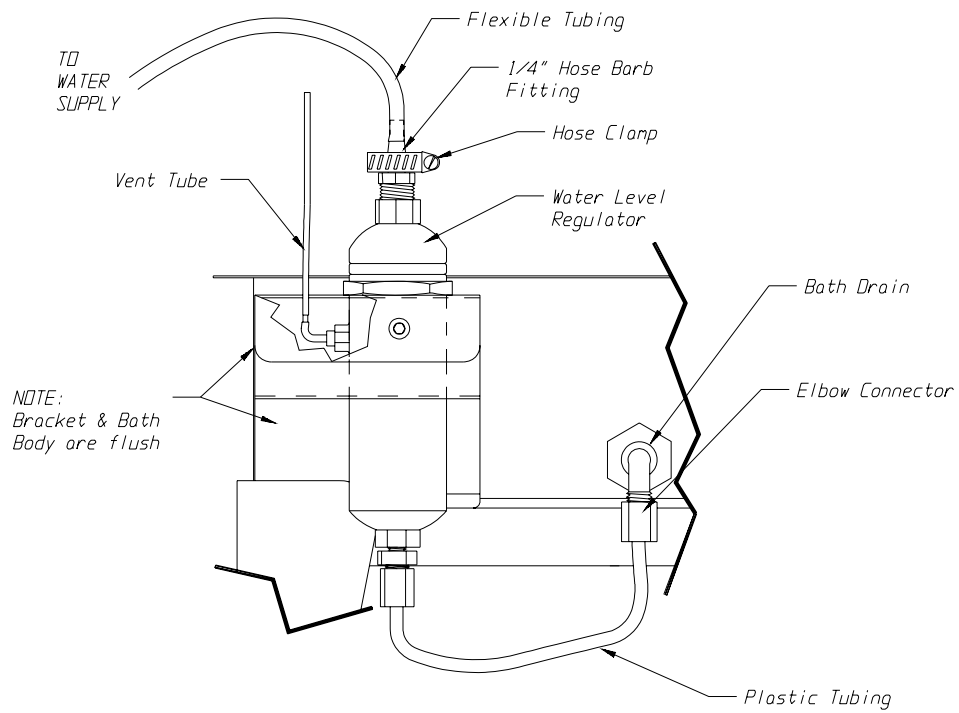

FIGURE 1
Use the following steps along with Fig. 1 & 2 shown on page 5.
1. Place Water Level Regulator Bracket. Assembly between the bottom of the bath body & the top of the bath table frame. (Bracket should be flush with back edge of the bath body, see Fig. 1 Side View Note). You do not need to remove the backing of the double-sided adhesive tape. The weight of a filled bath will keep the bracket assembly in place.
1. After cutting out countertop see Fig. 3 on page 9, remove backing of double sided tape on bracket and attach to bath by pressing the bracket firmly against the side & bottom of bath body (Bracket should be flush with back edge of bath body, see Fig.1 Side View Note).